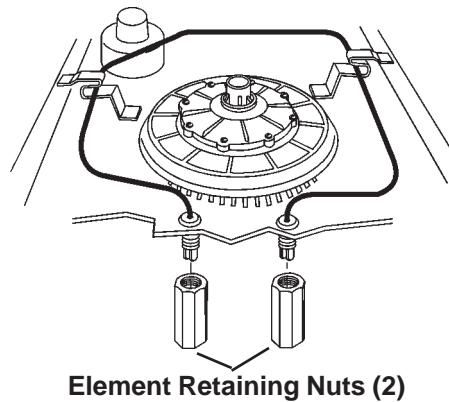

Fig. 2-2
3. Unscrew the two (2) nuts securing the heater element to the bottom of the tub. (Fig. 2-2)